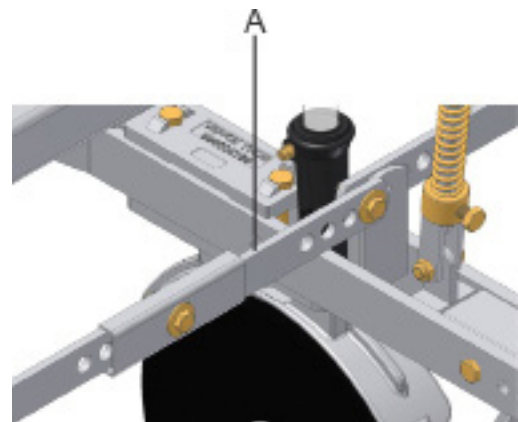

fig.03
- 3 - Remove the spacer bars (A) (fig. 03), loosening the screws, bushings and washers.